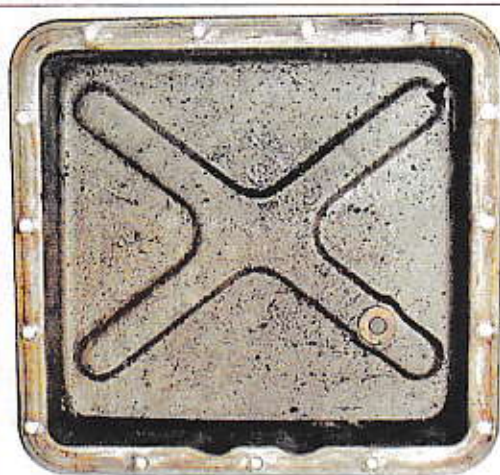
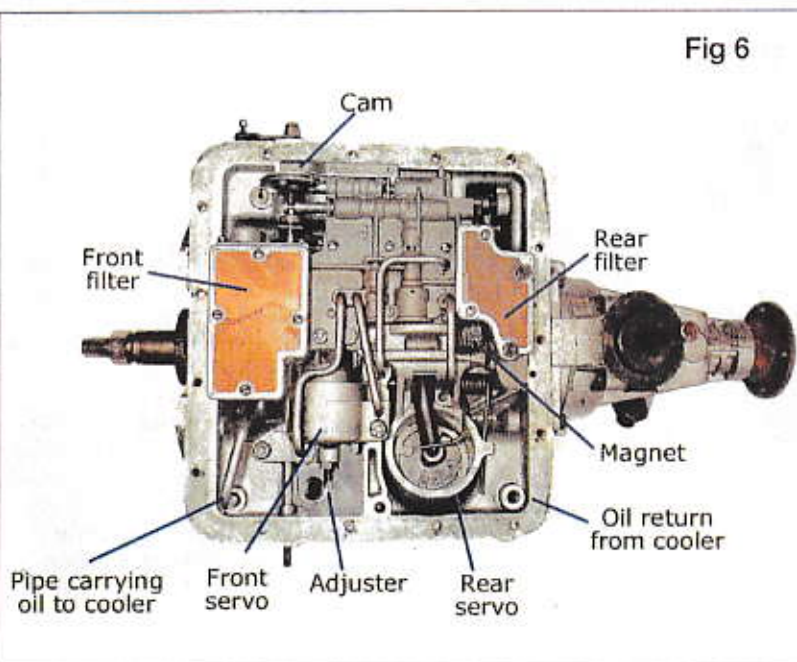
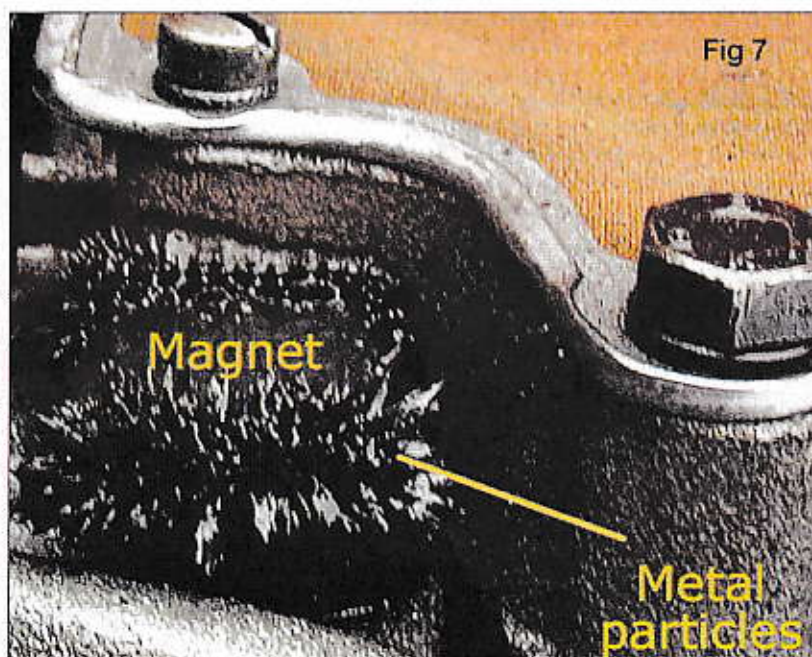
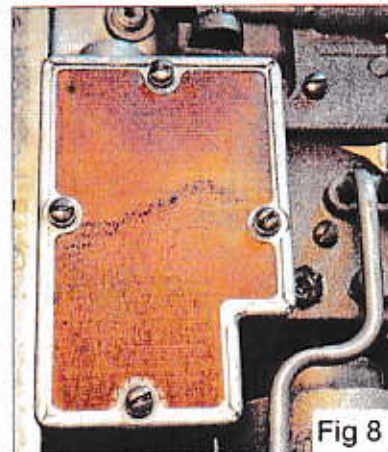

Fig 5
Fig 6
Fig 7
Fig 8
- 8) Inspect the sump. If the gearbox is in good condition the oil and sump will be clean with very little contamination. Unfortunately components do wear in service thus meaning that a small amount of debris is often visible and usually acceptable. The difficulty is deciding when "acceptable" changes to "unacceptable". Figure 5 shows large quantities of fibre and metal particles indicating that wear has taken place to such an extent that the vehicle should not be driven to reduce the possibility of further damage. An additional clue to the condition of the gearbox can be gleaned by the amount of metal clinging to the magnet - identified in figure 6 and shown in greater detail in fig 7. When in good condition the oil is red and fairly translucent. Check for discolouration caused by burnt gearbox components and water contamination, usually from the oil cooler. When mixed with water the oil becomes emulsified, is thicker and has a whitish pinky colour.
- 10) Remove four screws and detach the front filter, the flat mesh type is identified in figure 6 with figure 8 showing debris in the mesh. The later snorkel filter is illustrated in figure 9.
- 13) If fitted - The rear filter (identified in fig 6) can be detached after removing two bolts and screws. The bolts also secure the valve chest but it should remain in place because there is another retaining bolt close to the front servo.
- B) Disconnect one of the oil cooler pipes and lead into a suitable container for catching expelled oil. The direction of oil flow is indicated on figure 2. Unfortunately, the direction of flow is incorrect in many of the Jaguar manuals. For the avoidance of doubt, the oil outlet pipe and open return orifice can be seen in figure 6.
There are two brake bands which for simplicity we can call front and rear. The adjuster for the front band (see figures 6 and 10) is accessible after removing the sump. The rear brake band adjuster is situated on the outside of the gearbox case as shown in figures 1, 2 and 12. Adjustment may be referred to as either "adjusting the brake band" or "adjusting the servo". The reason being that adjustment takes up free play on the band and servo (which operates the band) – and then introduces the required amount of clearance or free play so that when not applied the band is clear of its rotating component.
- B) Slacken adjuster lock nut (see figures 6 and 10).